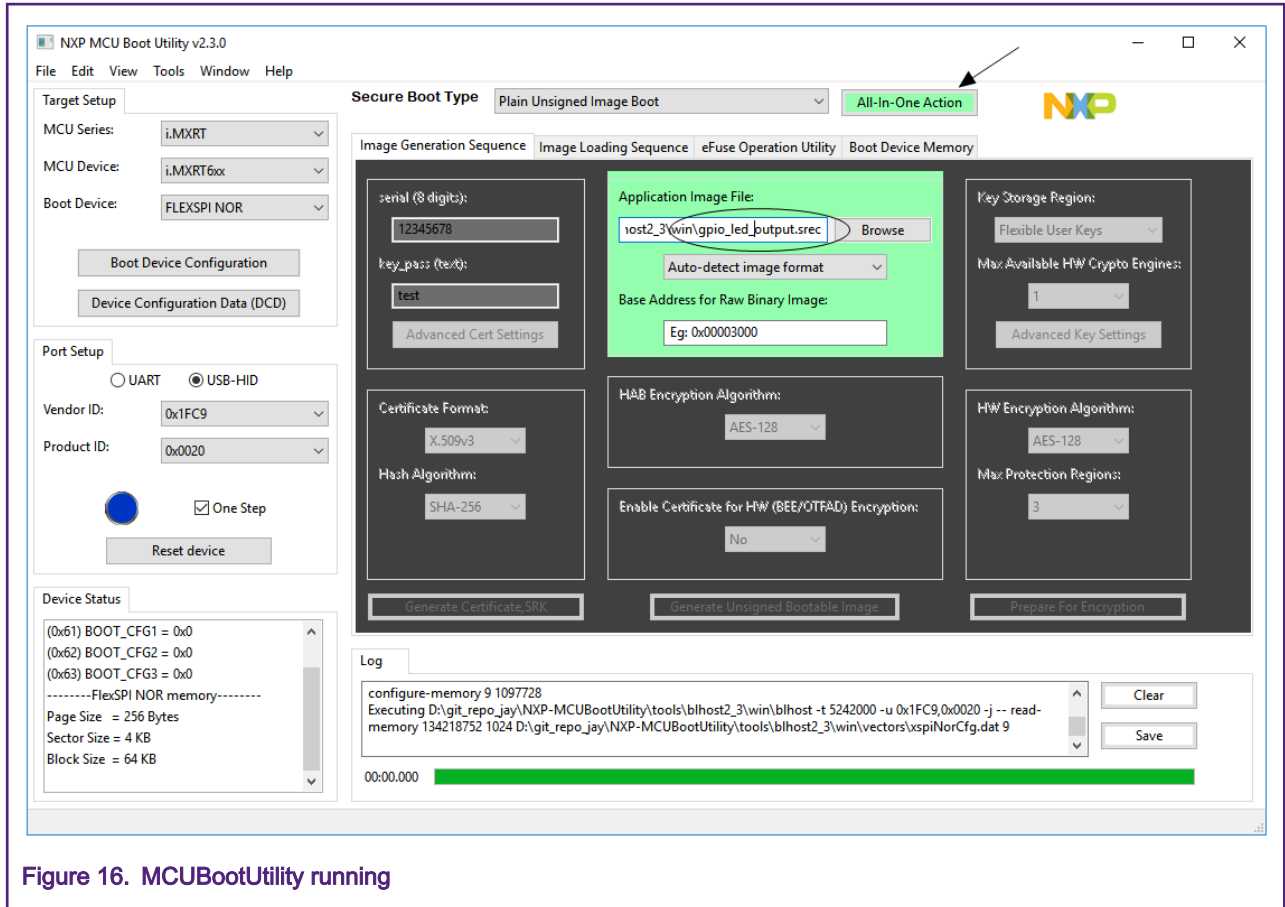

Figure 16. MCUBootUtility running
3. If the tool can connect with RT600 BootROM successfully, the device information will be showed in **Device Status**. Browse the `gpio_led_output.sec` file and click **All-In-One Action**, as shown in Figure 16.